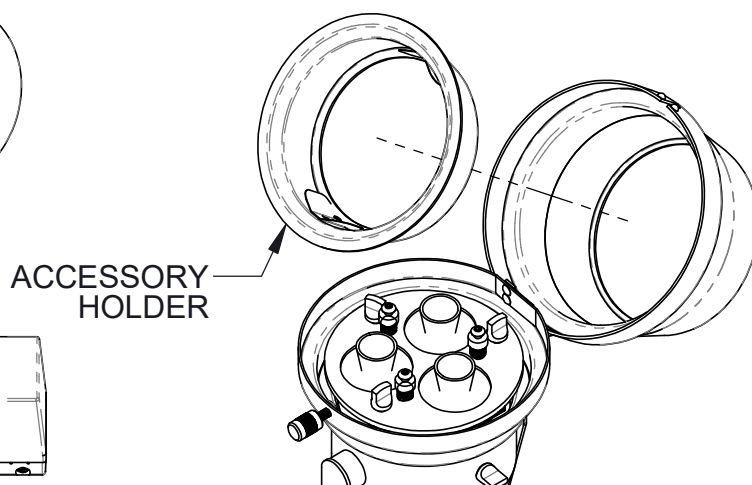

FIGURE 12. ACCESSORY HOLDER REMOVED FROM FIXTURE FRONT
3. REMOVE ALL ACCESSORIES AND ACCESSORY HOLDER (FIG. 12).